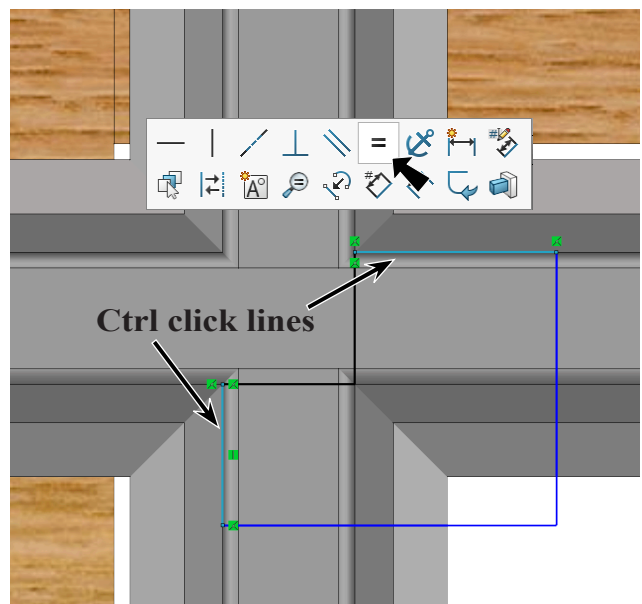

Fig. 11
Step 7. **Ctrl click the two line off the Rail** to select both. Release Ctrl key and click **Make Equal**  on the context toolbar, **Fig. 11**.